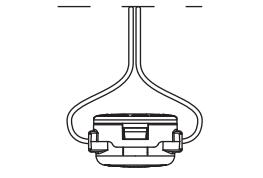

Fig. 18
- Using 10.5 ft. (3.2 m) of 0.095 in. (2.41 mm) replacement line push an end of the line through one of the eyelets until it protrudes through the opposite side. Continue pushing or pulling the line until the line is evenly distributed, so approximately 5 ft. (1.5 m) is visible from both sides of the cutting head.(Fig. 18)